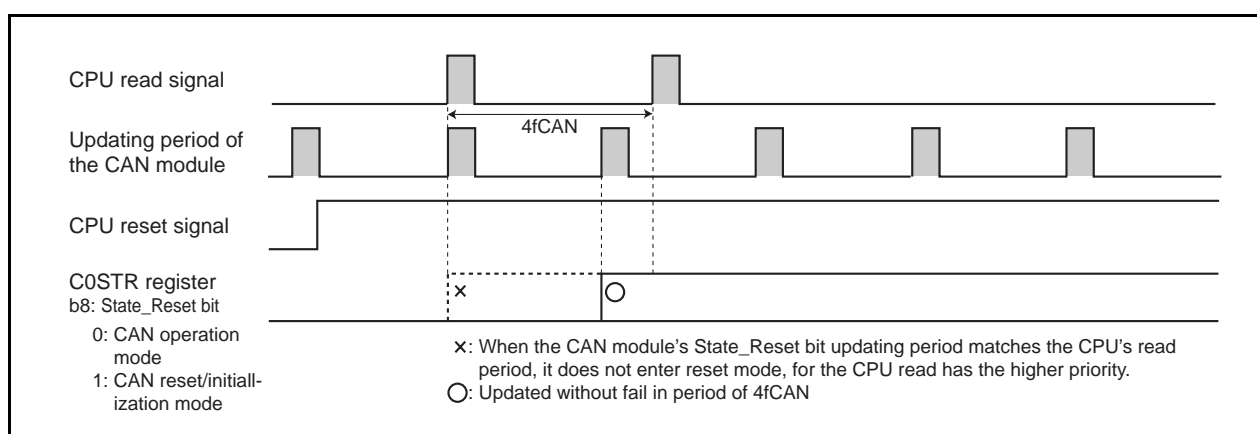

Figure 18.28 When Polling Period of CPU is 3fCAN or Longer
- When the CPU polls the C0STR register, the polling period must be 3fCAN or longer. (See Figure 18.28)